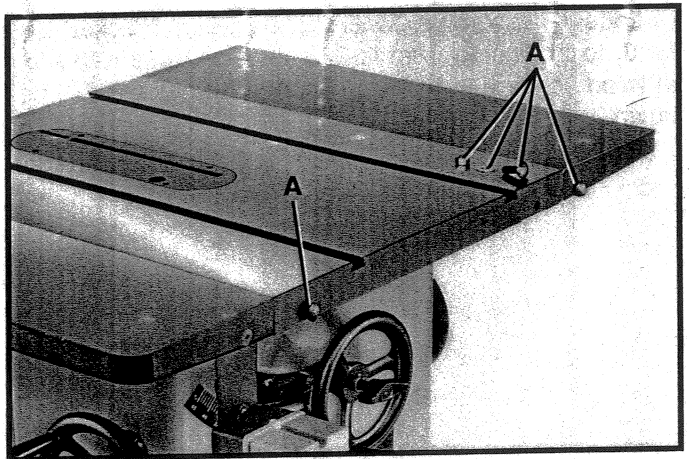

Fig. 10
1. Loosely assembly one-inch long carriage bolt, flat washer, and hex nut (A) Fig. 10, into the three pre-drilled holes in the face of the saw table and the right extension wing as shown.